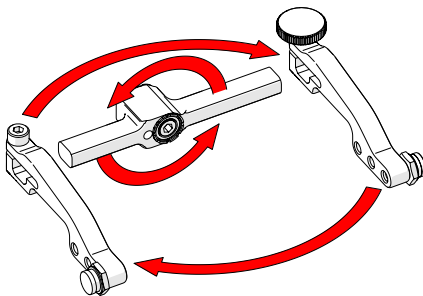

Fig. 121 - Flip yoke and reverse arms
4. Flip the yoke 180° and reverse the probe holder arms (Fig. 121).